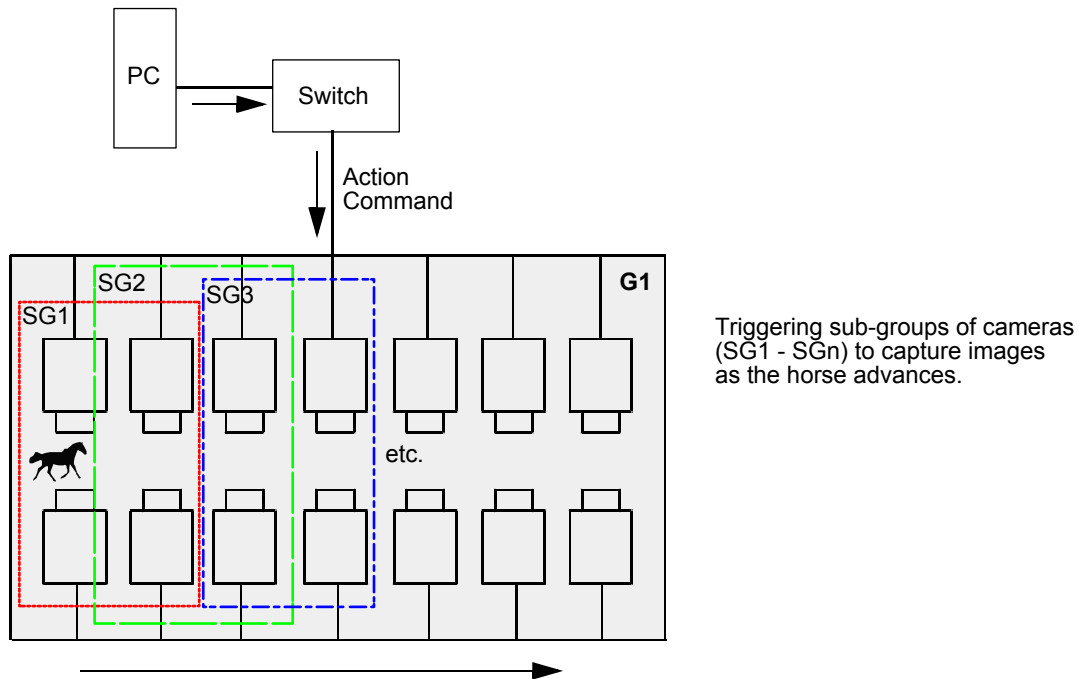

Fig. 108: Example Setup: Analyzing the Movements of a Horse
To analyze the movement of a horse, multiple cameras are installed parallel to a race track. They form a group of cameras (G1, see Figure 108 on page 266).
When the horse passes, four cameras positioned next to each other (sub-group SG1 in Figure 108) synchronously execute an action (in this example: image acquisition).
As the horse advances, the next four cameras (sub-group SG2 in Figure 108) synchronously capture images. One sub-group follows another in this fashion until the horse reaches the end of the race track. The resulting images can be combined and analyzed in a subsequent step.
- The group of cameras in a network segment that is addressed by the action command. In Figure 108, this group is G1.
- The sub-groups in the group of cameras that capture images synchronously. In Figure 108, these sub-groups are SG1, SG2, SG3, and so on.